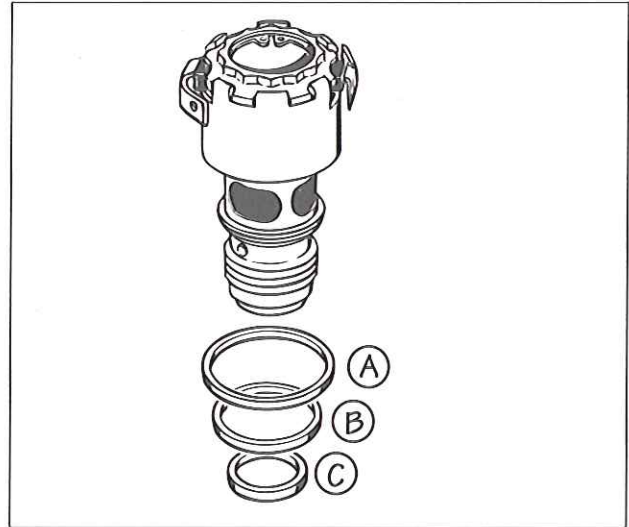

FIG. 42
5. Coat new solenoid valve seal rings with clean lube oil. Install the upper (A) and center (B) seal rings on the solenoid valve body and the lower (C) seal ring into the bottom of the bore in the housing (see Fig. 42).